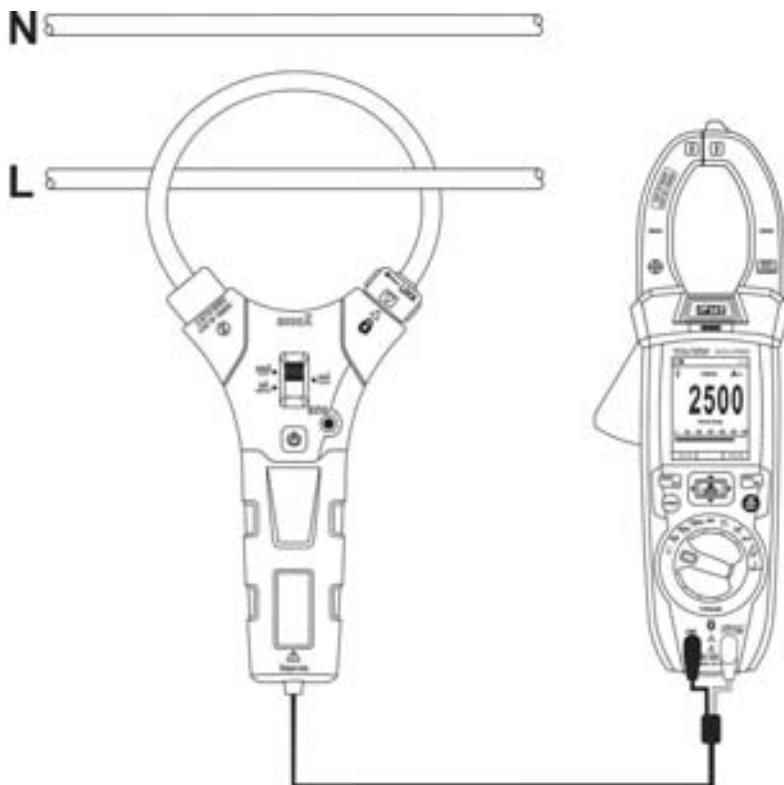

Fig. 34: Use of the instrument for AC/DC current measurement with clamp transducer
6. Insert the cable into the jaws (see Fig. 34). The display shows the value of current.